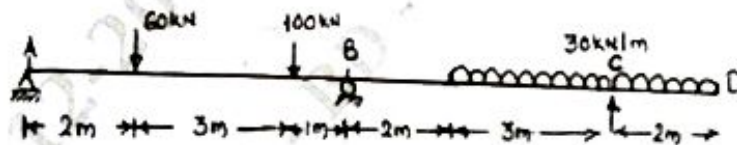

Fig.Q3
3. Analyse the beam shown in Fig.Q3 by moment distribution method. Draw BMD, SFD and elastic curve.